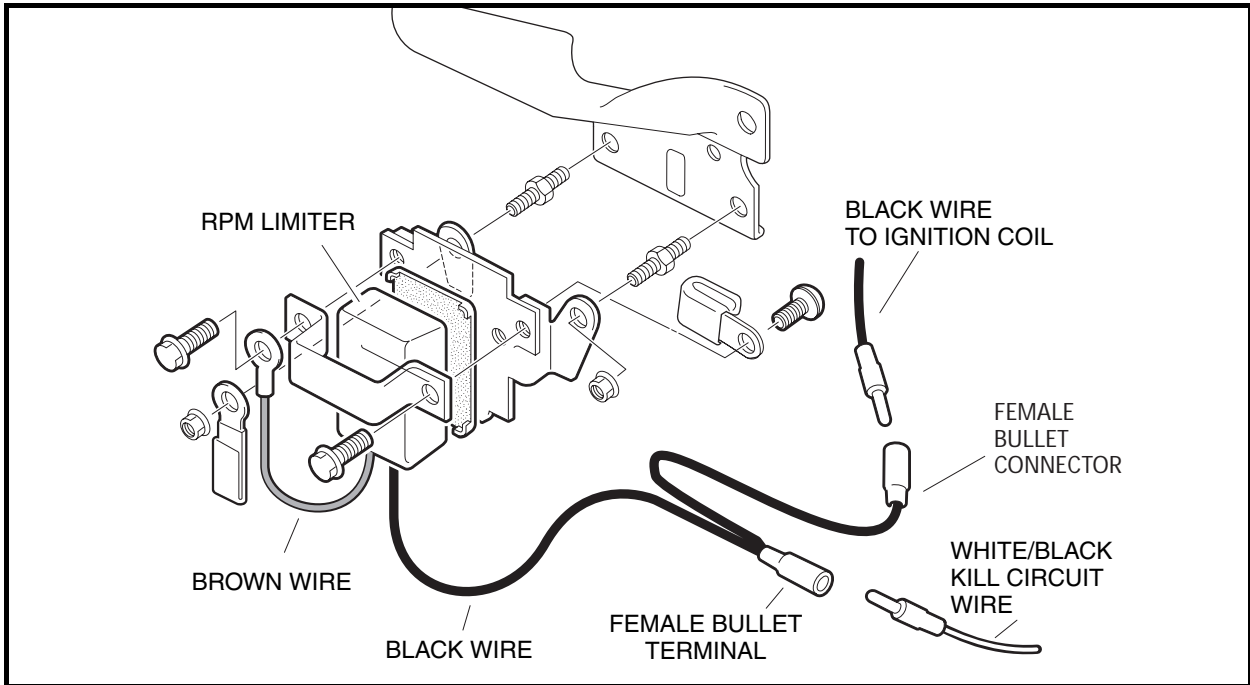

Figure 11-17 RPM Limiter
2. Disconnect both of the bullet terminals (**Figure 11-17, Page 11-21**).
- 2.1. Disconnect both of the bullet terminals at the RPM limiter (**Figure 11-17, Page 11-21**). Place the red (+) probe of the meter on the male bullet terminal of the wire connecting to the ignition coil under the fan housing, and place the black (–) probe on a clean unpainted surface of the engine or frame (**Figure 11-17, Page 11-21**).